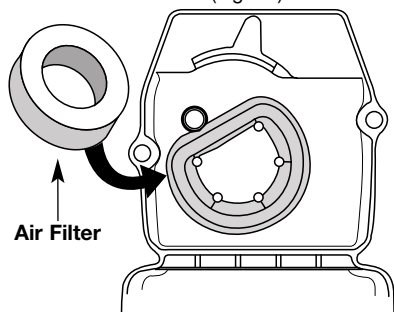

Fig. 37
2. Remove the air filter from behind the air filter/muffler cover. (Fig. 37).
6. Replace the air filter in the air filter/muffler cover (Fig. 37).